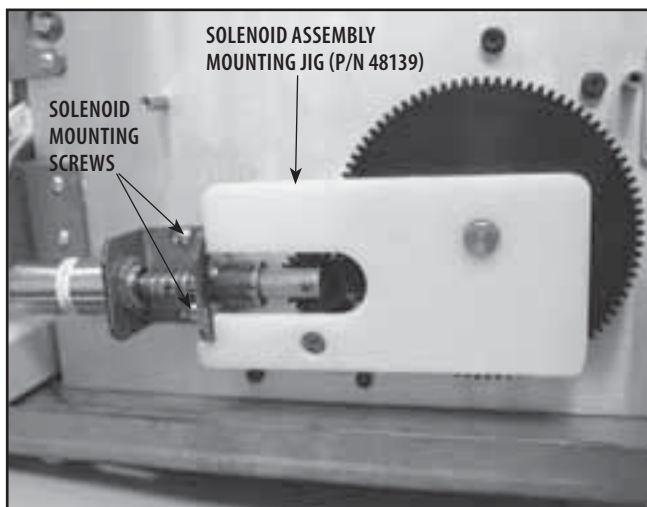

FIGURE 6.49
1. Position the Solenoid Assembly Mounting Jig onto the Shafts of the Large Driven Gear and the Motor Gear. See Figure 6.49.
2. Position the Solenoid Assembly so gears are fully seated and the front and bottom of the Bracket are against the Solenoid Assembly Mounting Jig. Secure with screws. See Figure 6.49.